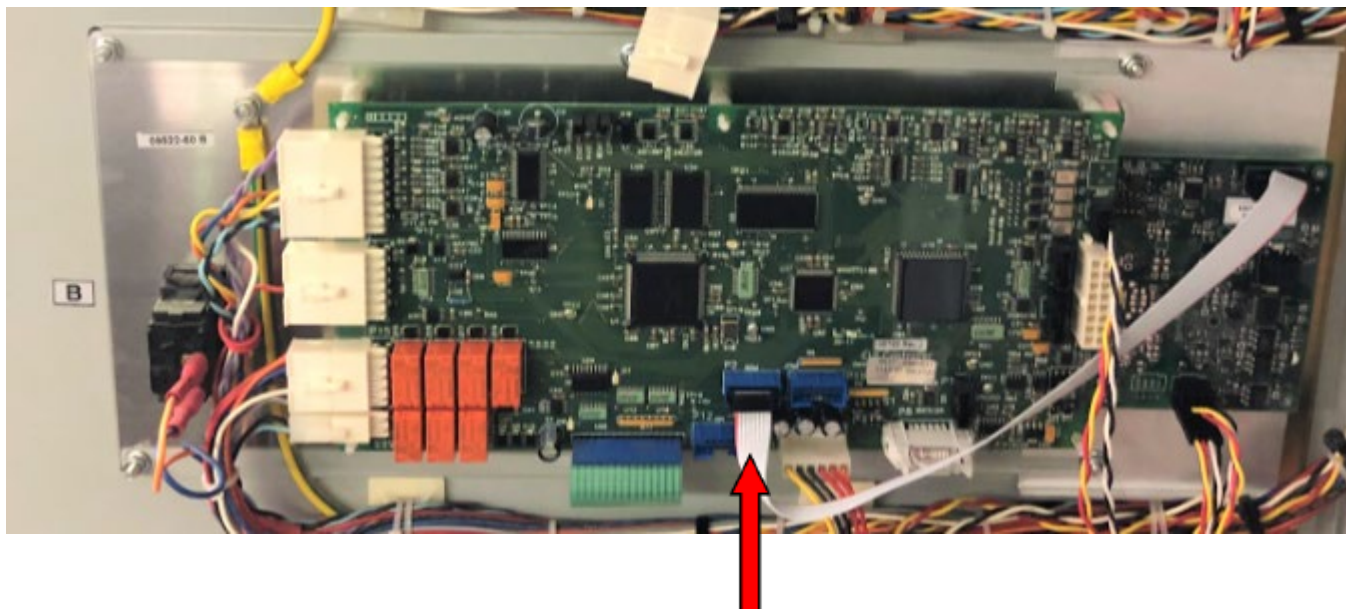

Figure 16 CAN Board Connected to the 5-Volt-Direct-Current (-VDC) Supply, at Port P2, on the Channel B of DVS100/DVS150 Control Board, with the Ribbon Cable
- 4.4.3. Connect the DVS100/DVS150 CAN board ribbon cable connector to port P2 on the Channel B of DVS100/DVS150 control board(Figure 16).